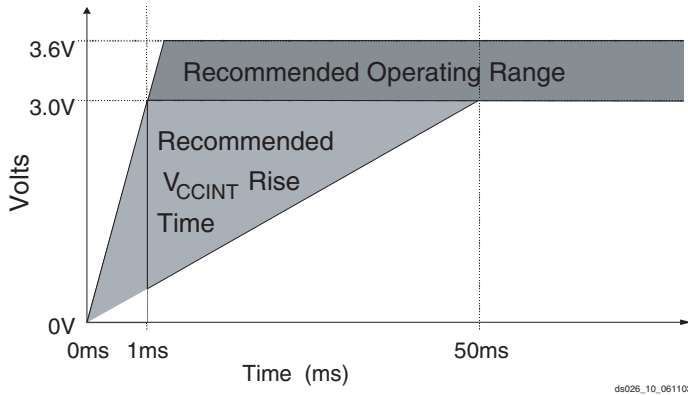

Figure 8: V_{CCINT} Power-Up Requirements
On power up, $\overline{\text{OE/RESET}}$ is held low until the XC18V00 is active (1 ms). $\overline{\text{OE/RESET}}$ is connected to an external 4.7k Ω resistor to pull $\overline{\text{OE/RESET}}$ HIGH releasing the FPGA INIT and allowing configuration to begin. If the power drops below 2.0V, the PROM resets. $\overline{\text{OE/RESET}}$ polarity is *not* programmable. See Figure 8 for power-up requirements.
- At power up, the device requires the V_{CCINT} power supply to monotonically rise from 0V to nominal voltage within the specified V_{CCINT} rise time. If the power supply cannot meet this requirement, then the device might not perform power-on-reset properly. See Figure 8.